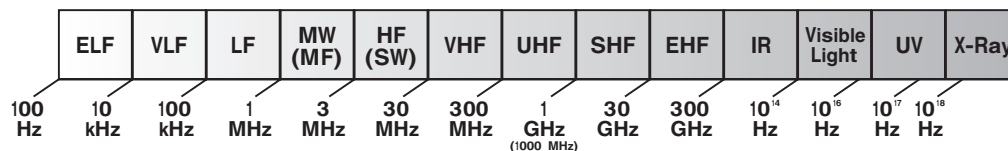

Figure 1: The Electromagnetic Spectrum
Radio Frequency (RF) does not refer just to radio broadcasting but rather encompasses all of the electromagnetic spectrum. RF energy is classified according to frequency. The range of frequencies is called the *radio spectrum*. While there is no precise beginning or end to frequencies making up the RF spectrum, Figure 1 shows the generally accepted ranges and class designations.